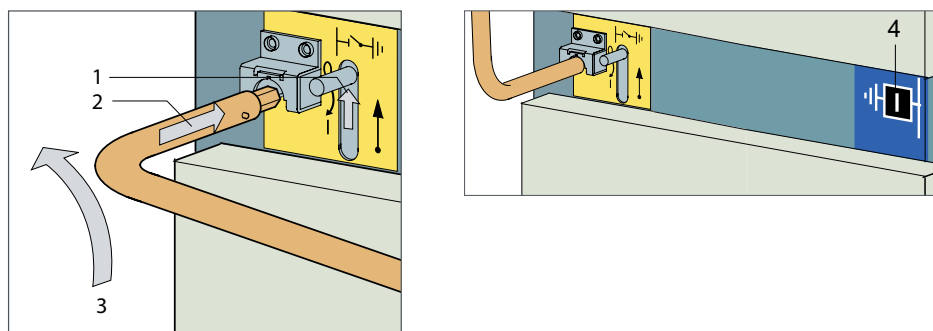

Figure 55
1. Push the slide (Figure 55, 1) upwards and insert the control lever of the earthing switch with the lever rod pointing to the right (2).
2. Turn the lever counterclockwise by approx. 95° (3).
3. Check position indicator: It must indicate that the earthing switch is OFF (4). Remove the lever.